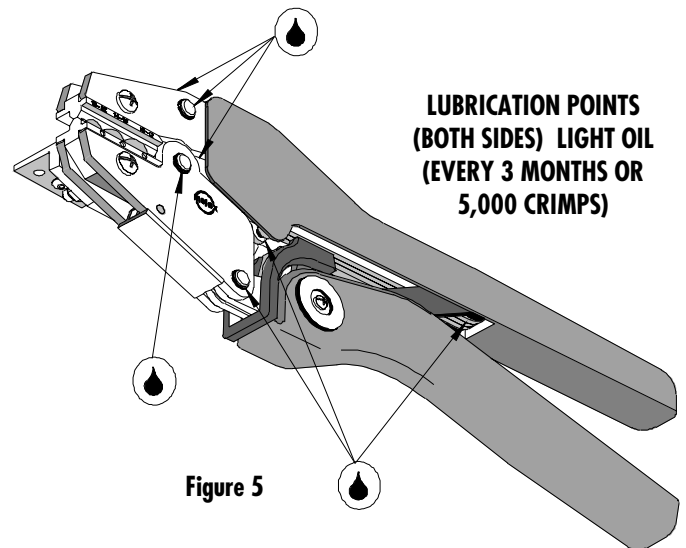

Figure 5
- Make certain all pins; pivot points and bearing surfaces are protected with a thin coat of high quality machine oil. Do not oil excessively. The 64001-4500 (RHT-5771) was engineered for durability, but like any fine piece of equipment, it needs cleaning and lubrication for a maximum service life of trouble-free crimping. A light oil, such as 30 weight automotive oil used at the oil points shown in Figure 5, every 5,000 crimps or 3 months will significantly enhance the tool life and ensure a stable calibration.